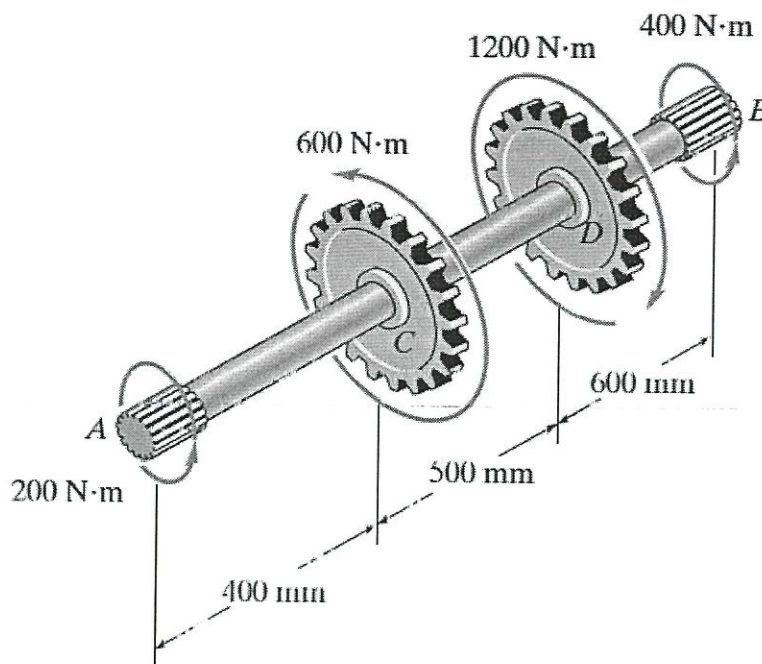

Figure Q3
- Q3** The **Figure Q3** shows the splined ends and gears attached to the A992 steel shaft ($G = 75 \text{ GPa}$) are subjected to the torques. The shaft has a diameter of 40 mm. The shaft rotating at 600 rpm. Determine: